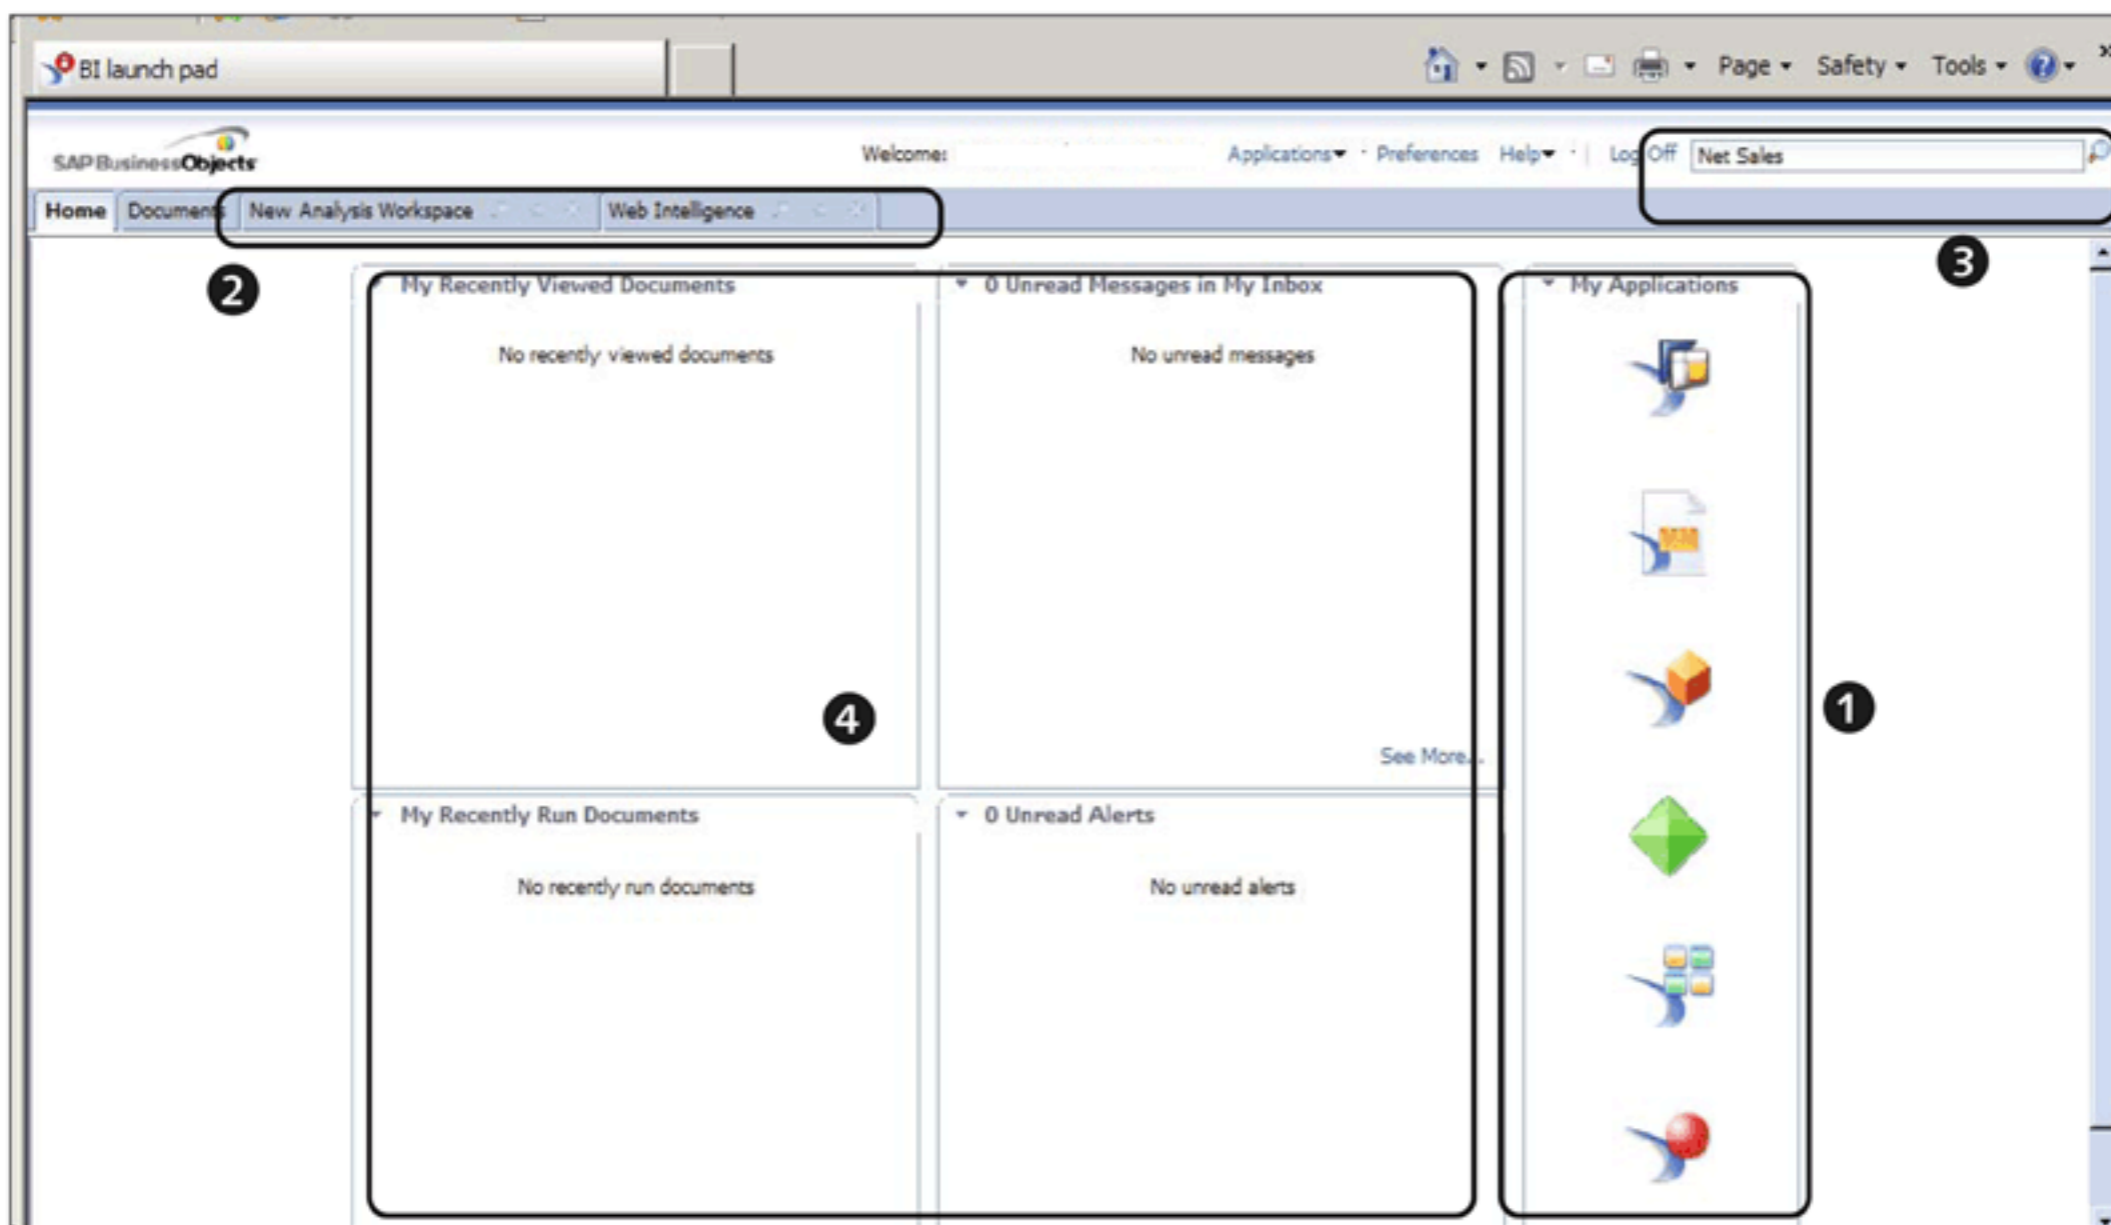

Figure 13.21 BI Launch Pad
In the previous sections, we have introduced you to the SAP BusinessObjects BI reporting tools. The BI LAUNCH PAD acts as a self-service portal that provides a single point of access to all of these reporting tools (1 of Figure 13.21).
simultaneously using the tabbed browsing in the BI Launch Pad (② of Figure 13.21). Because content created from all of these tools is accessible from BI Launch Pad, users can search the repository to locate desired content (③ of Figure 13.21). In addition to this, users can create their own content by grouping components created from different tools into one single page. For example, a dashboard and an SAP BusinessObjects Web Intelligence report can be displayed together as user-defined custom content. This is called a *BI Workspace* (not to be confused with BW Workspaces, which we discussed in Chapter 10).